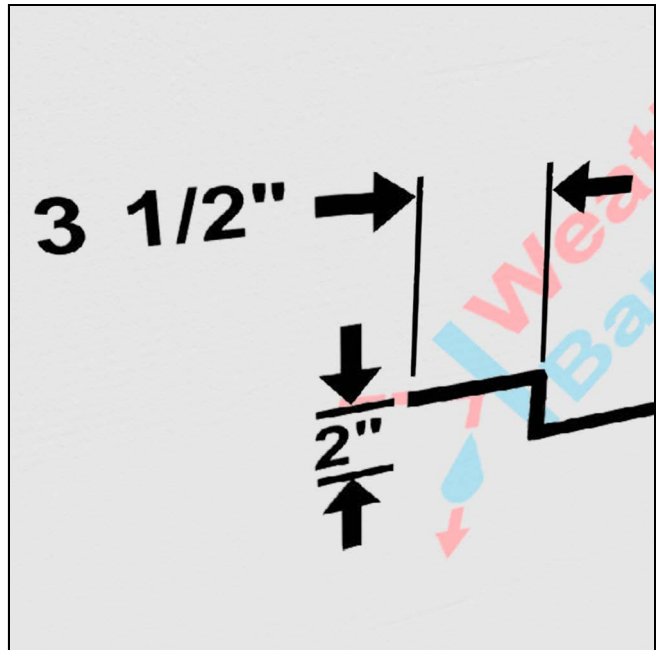

Figure 17
2. Trim up from the bottom corners 2" and then make an additional horizontal cut about 3-1/2" wide. See Figure 17.